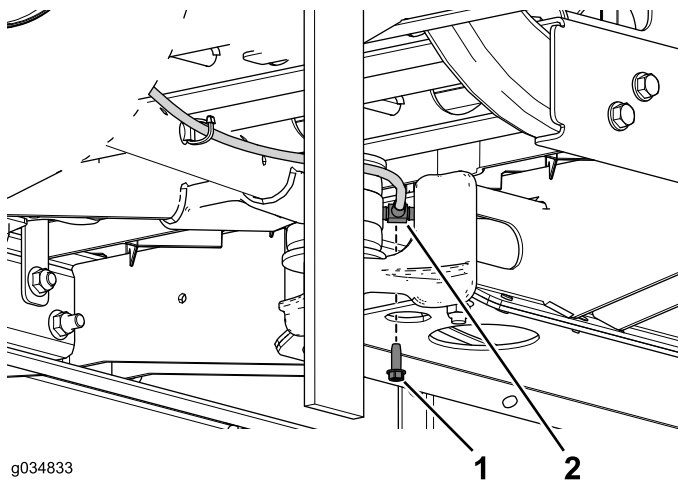

Figure 67
6. Remove the self-tapping screw that secures the tee fitting to the center channel (Figure 67).